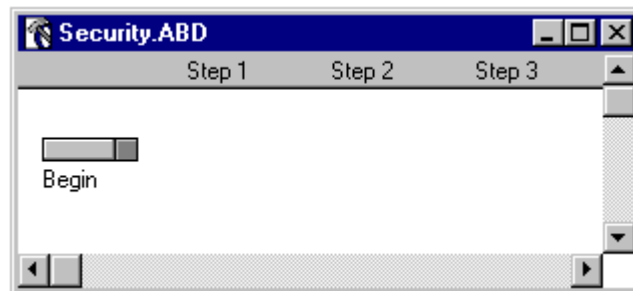

Figure 3-7 New Application Named
7. This names and saves the application (Figure 3-7). If you don't enter the .ABD extension, it is automatically added to the end of the filename.